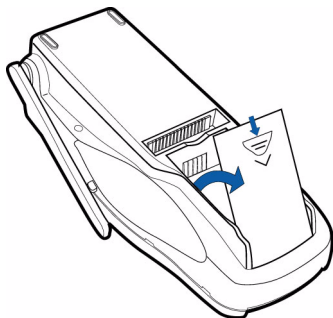

Figure 11 Open the MSAM Access Door
- 2 Open the MSAM door located beneath the battery (Figure 11):